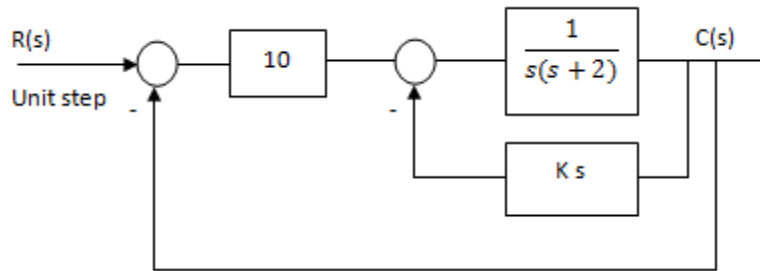

Figure 2
5) Solve the following questions for the system shown in Figure 2: